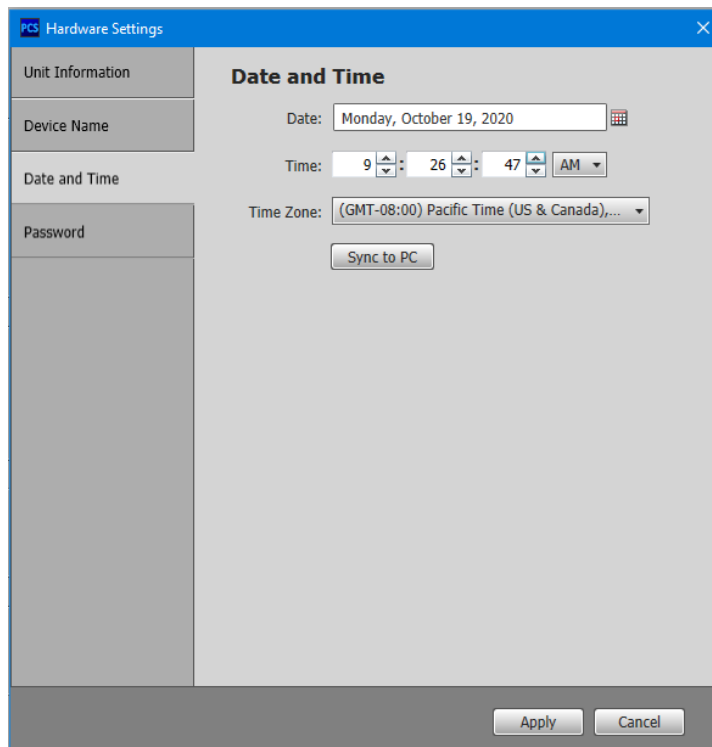

Figure 49. Hardware Settings: Date and Time
1. Click the **Date and Time** button to access a menu to change the date, time, and time zone of the device (see figure 49). You can also click the **Sync to PC** button to synchronize the device with a connected computer to align the current date and time.